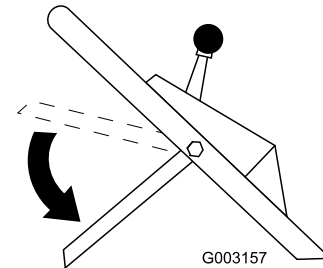

Figure 17
8. Move the blade control bar down to its lowest position (Figure 17).